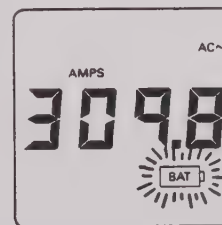

Fig. 12
7. LOW BATTERY INDICATOR: The low battery indicator will flash when battery voltage drops to 6-volts. The battery should be replaced as soon as possible. See Fig. 12.